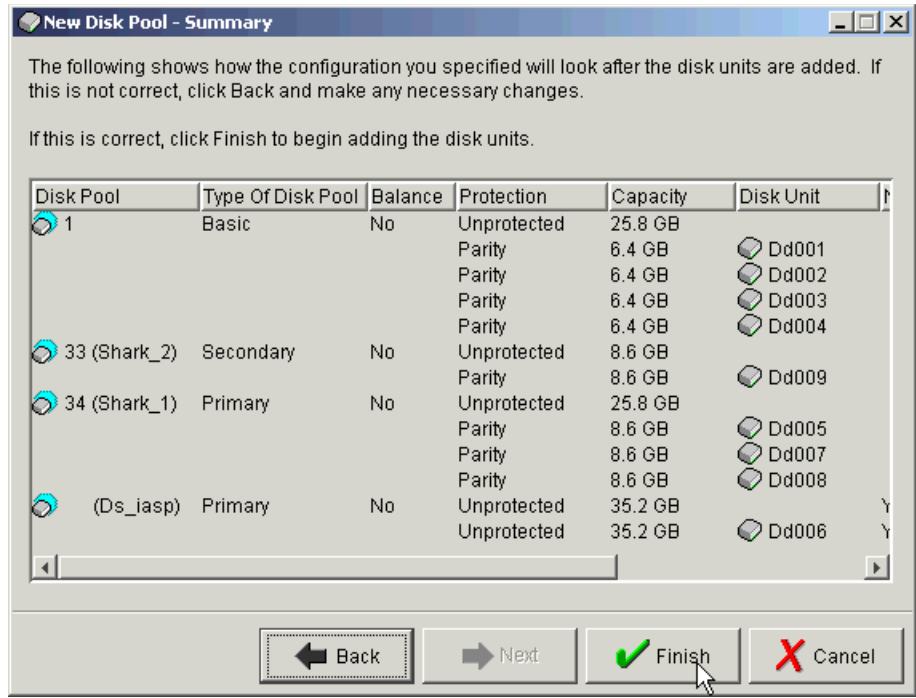

Figure B-17 New Disk Pool Summary
12. A summary of the Disk Pool configuration similar to Figure B-17 appears. Click **Finish** to add the disks to the Disk Pool.